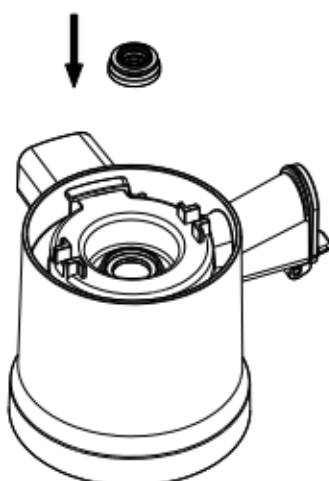

Fig 13b
- When replacing, ensure the small ribbed surface faces upward (Fig 13b) and that the groove of the seal ring sits flush within the hopper.